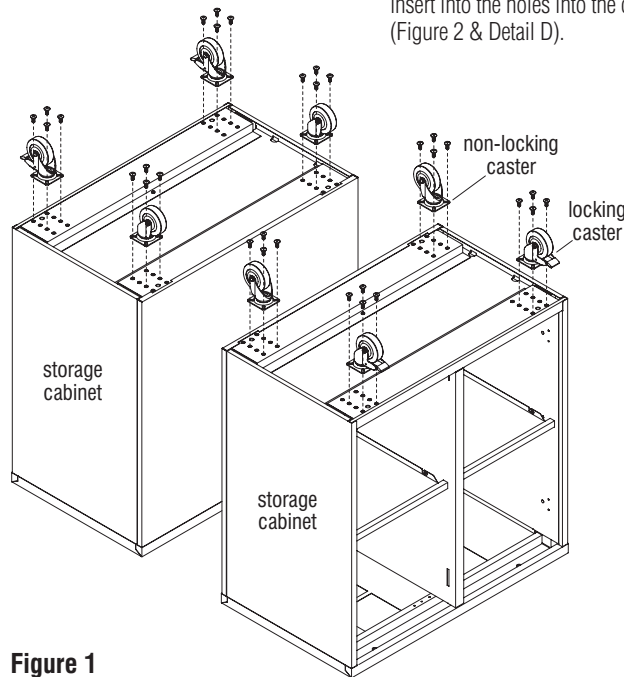

Figure 1
1. If the worktable being assembled contains totes, remove them at this time, then carefully place both storage cabinets upside down on a soft, protective surface (Figure 1).
2. Position two locking casters at the front, "storage side" of each storage cabinet. Align the caster mounting holes with storage cabinet holes closest to the front, storage side as illustrated in Detail A. Secure each locking caster using four $\frac{1}{4}$ -20 x $\frac{5}{8}$ " screws (Figure 1 & Detail A).
3. Position two non-locking casters at the back of each storage cabinet. Align the caster mounting holes with the set of four holes that are set-back from the rear of each storage cabinet holes, leaving a set of three holes uncovered near the back edge of the cabinets as illustrated in Detail B. Secure each non-locking caster using four $\frac{1}{4}$ -20 x $\frac{5}{8}$ " screws (Figure 1 & Detail B).
illustrated in Detail C. Secure the gangers to the bottom of the cabinet using two $\frac{1}{4}$ -20 x $\frac{5}{8}$ " screws per ganger (Figure 1 & Detail C).